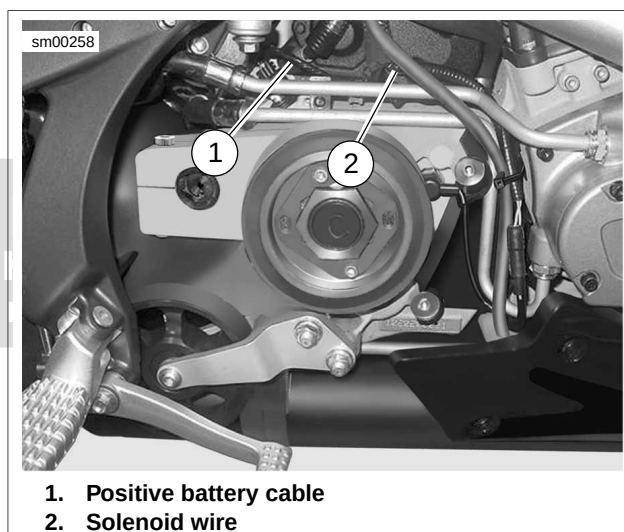

Figure 5-2. Starter Wires (Protective Boot Not Shown)
6. See Figure 5-2. Remove fastener with washer (1) (metric).
- b. Remove positive battery cable (2).
- c. Detach solenoid wire (3).